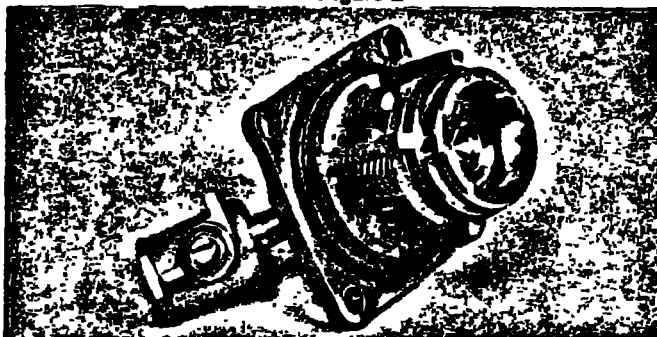

Figure 3
Installation - Parallel Devices Figure 3
2. Lift off the first check valve cover. The check valve inside will come out with the cover and is attached with a bayonet type locking arrangement. Figure 3.